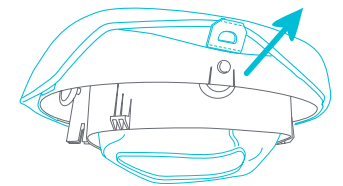

Fig. 14a
- 14 • To remove the seat fabric for maintenance, pull out all the plates from the tab on the seat base (Fig. 14a).